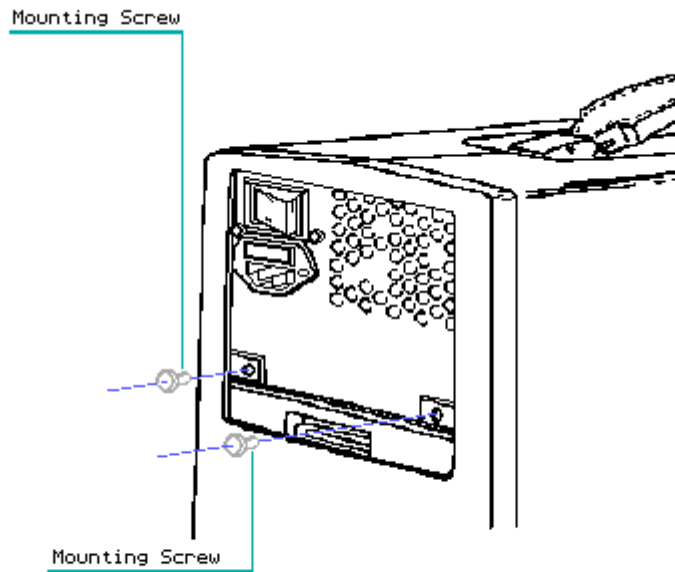

Figure 7-6. Locating and Removing the Outer Access Casing Mounting Screws (Switch Side)
2. Place the computer keyboard side down on a level work surface. Slide open the AC power access panel and the peripheral connector access panels. Using a Torx screwdriver, remove the mounting screws from the AC power and peripheral connector access areas (Figures 7-6 and 7-7).